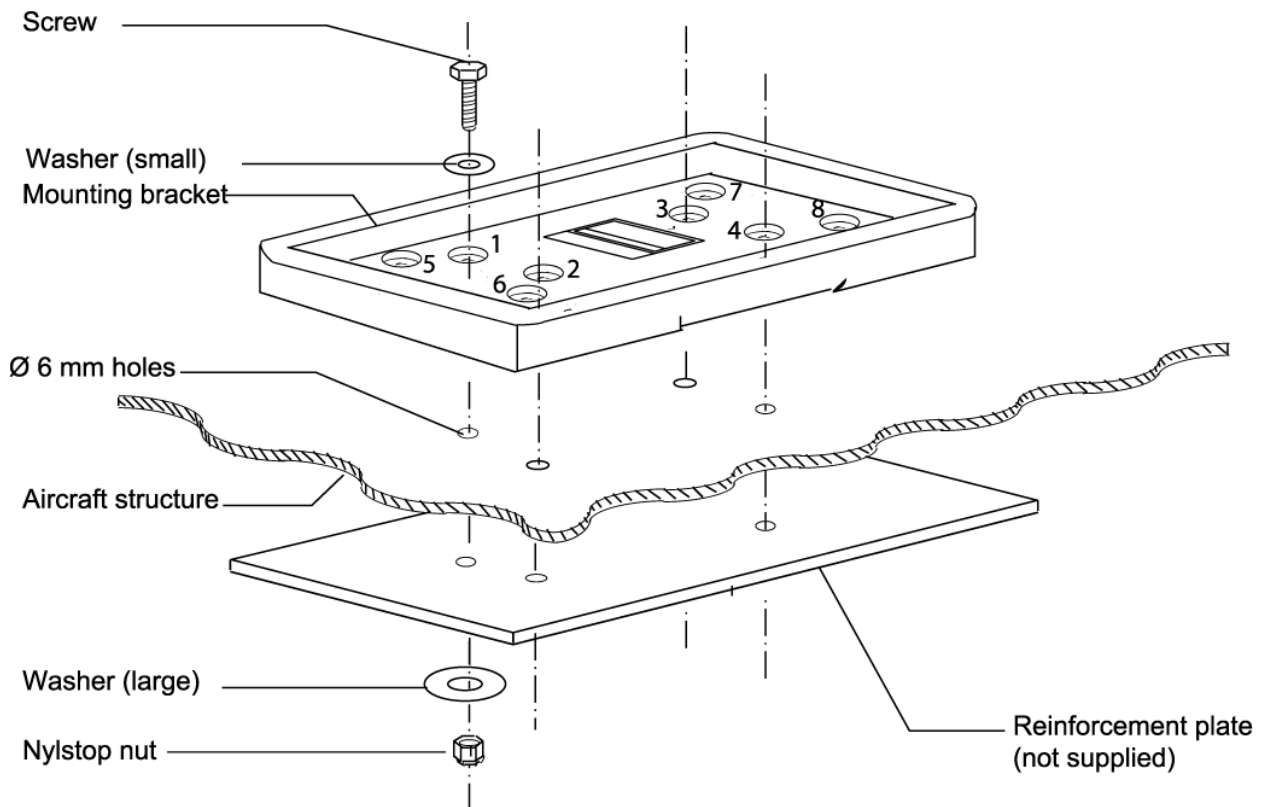

Figure 6: Bracket installation
- If the aircraft structure is not solid enough to withstand a 500 kg traction on the bracket, a reinforcement plate (not supplied) should be installed as shown Figure 6: Bracket installation.